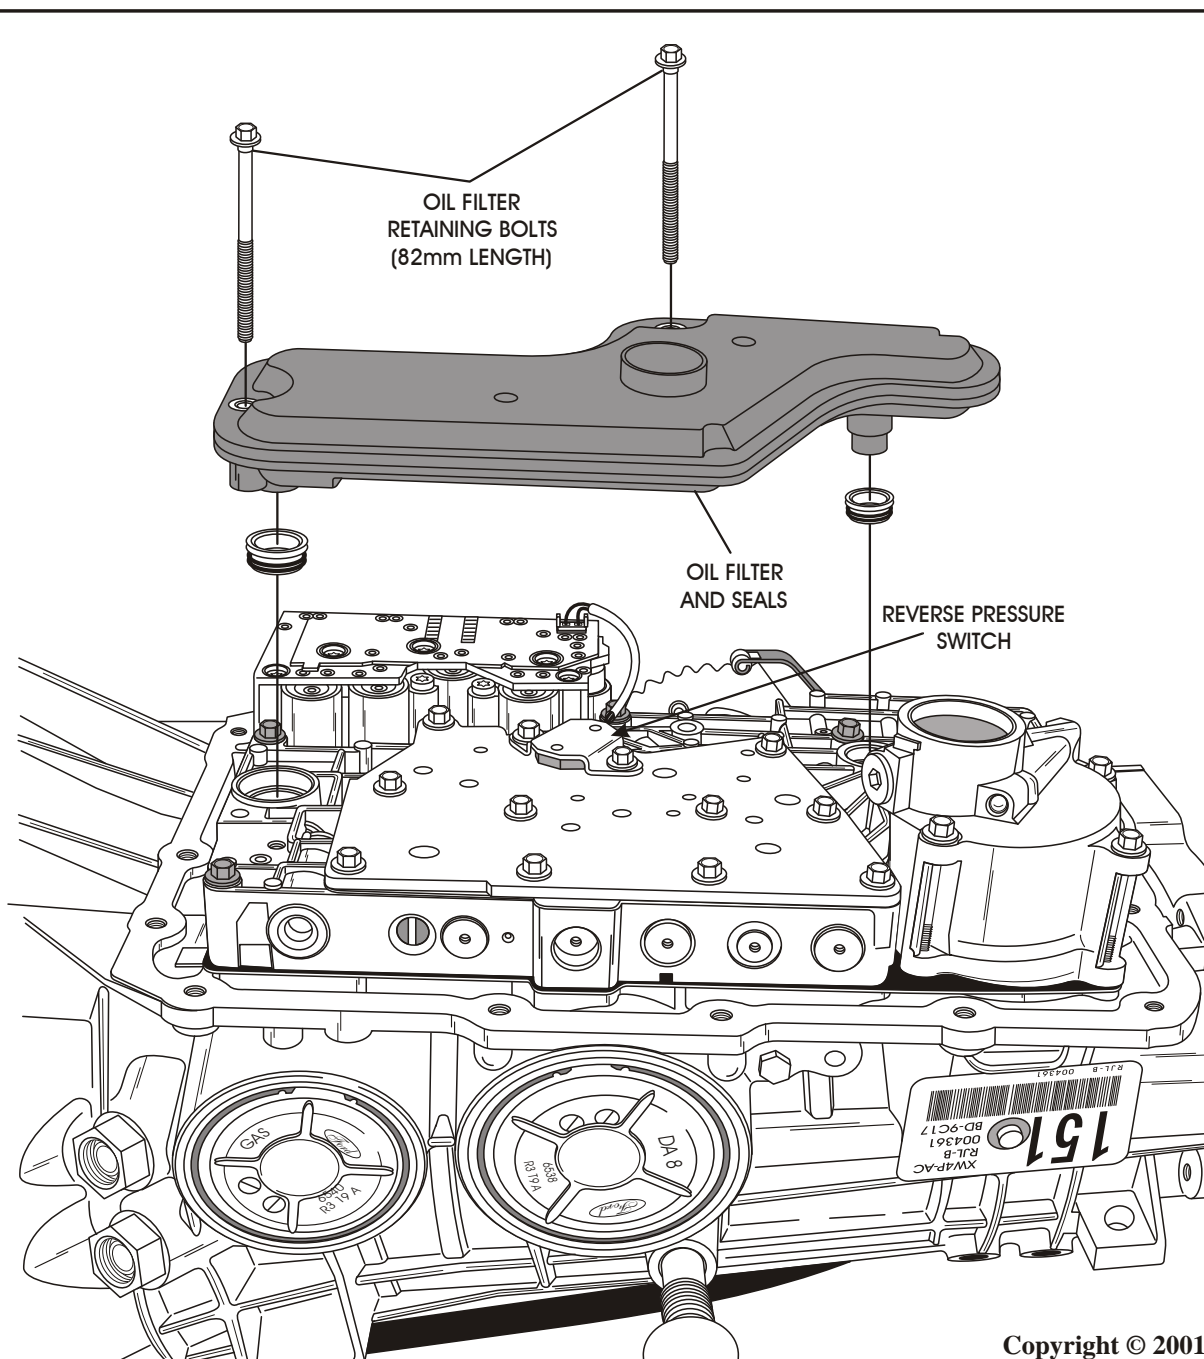

Figure 177
78. Install new filter seals on new filter and install filter assembly, as shown in Figure 177.